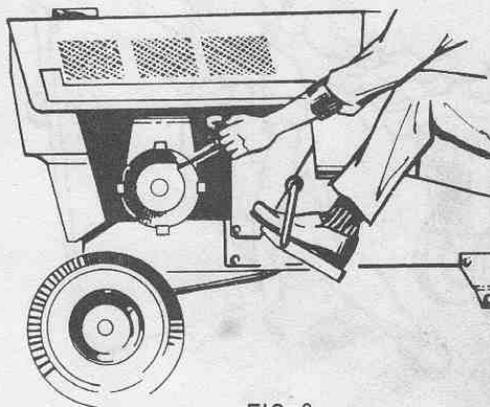

FIG. 8
3. Grasp recoil starter handle. See Figure 8, and pull sharply to start engine. Do not allow starter rope to snap back. Repeat until engine starts. Move choke control in about 2/3 of the way. Gradually push control in as engine warms up, before applying load. NOTE: If engine does not start after several pulls, push in choke control. Check to see that fuel shut off valve is open, fuel in tank and the ignition key is turned on.